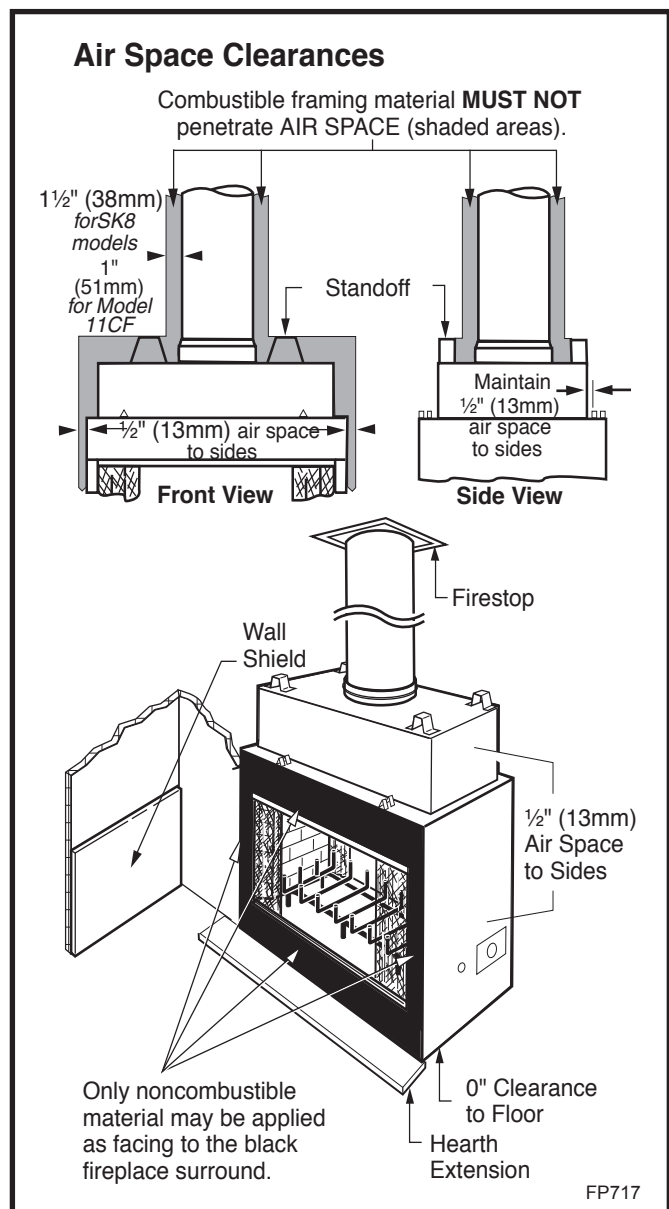

Fig. 20 Minimum clearances to combustibles.
There must be an air space ($1\frac{1}{2}"$ (38 mm) with SK8 and 1" (25 mm) with 11CF) between outermost portion of chimney sections and any adjacent combustible surfaces. (Fig. 20) (Combustible surfaces include burnable materials such as: ceiling members, joists, flooring, combustible insulation and roof structures.)
CAUTION: All joints between the finished wall and the fireplace surround (top/sides) must be sealed with non-combustible material to prevent cold air leakage into the room. Only noncombustible material may be applied to the facing of the fireplace surround. (Black painted area) (Fig. 20)
NOTE: No side wall protection is required for fireplaces installed at 45° to two (2) side walls (corner installation). Adjacent combustible side walls that are within 16" (406 mm) (STR33/36) and 20" (508 mm) (STR42) of fireplace opening must be protected with MHSC Wall Shield Model SP40 or a specifically built wall shield described in Figure 20 & 24.
All joints (top, bottom and sides) where wall or decorative facing material meets fireplace surround must be completely sealed with a noncombustible material. (Figs. 20 and 24)
The special wall shield design described in Figure 20 is an alternate method of adding protection to side walls and can be used in place of the SP40 with the same wall clearances specified for the SP40. Rt must =1.85 minimum.